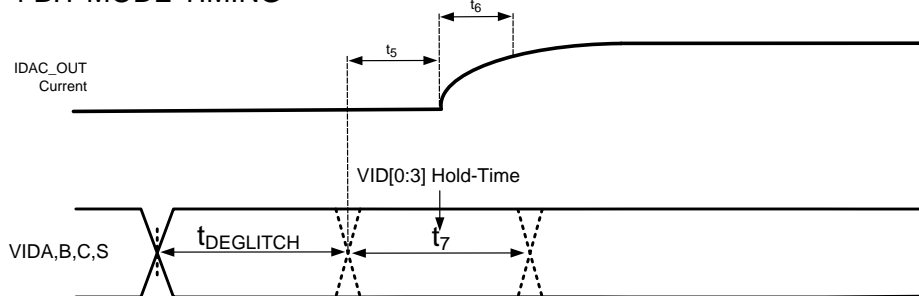

Figure 1. Timing Diagram for LM10011 Communications
(5) For VID timing, see Figure 1.
Four pins are used to communicate with the LM10011. In 6-bit mode (MODE = 0), VIDA, VIDB, and VIDC are data lines, while VIDS is a latching strobe that programs in the LM10011 data. As shown in the 6-bit mode timing diagram of Figure 1, the falling edge of VIDS latches in the data from VIDA, VIDB, and VIDC as the lower three LSB of the IDAC_OUT value, [2:0]. After a minimum hold time (t_2), the rising edge of VIDS latches in the data from VIDA, VIDB, and VIDC as the upper three LSB of the IDAC_OUT value, [5:3]. Internally, a delay (t_3, t_1) on VIDS allows for the setting of all VIDA, VIDB, and VIDC lines to change simultaneously as VIDS rises or falls.
The LM10011 includes a 4-bit mode to facilitate parallel VID communication. In 4-bit mode (MODE = 1), VIDC, VIDB, VIDA, and VIDS are all parallel data lines. As shown in the 4-bit mode timing diagram in Figure 1, a changing edge of any of the VID communication lines will change the IDAC_OUT current to the corresponding new 4-bit value found on the data lines. There is a 3- μ s deglitch filter to eliminate spurious noise events. The data must overcome the deglitch time and the minimum hold time (t_7) or else the IDAC_OUT pin current may not reflect the value indicated at the VID data inputs. During the hold time, no other data line can be transitioned.